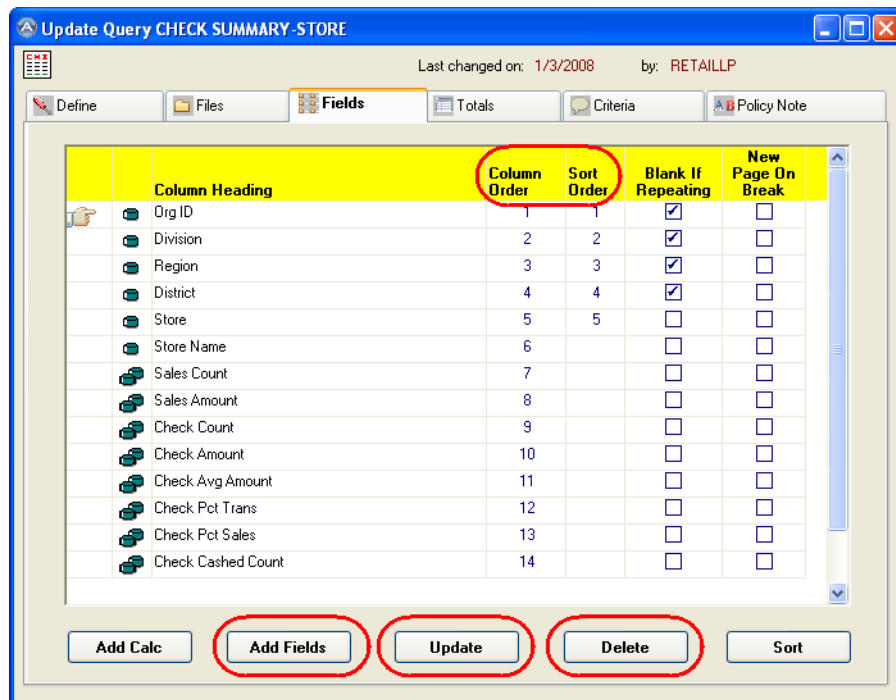

Figure 1-4: Update Query - Fields Tab
1. In the **Update Query** or **Add New Query** window, click the **Fields** tab (Figure 1-4).
1. In the **Update Query** or **Add New Query** window, click the Fields tab (Figure 1-4 on page 12).